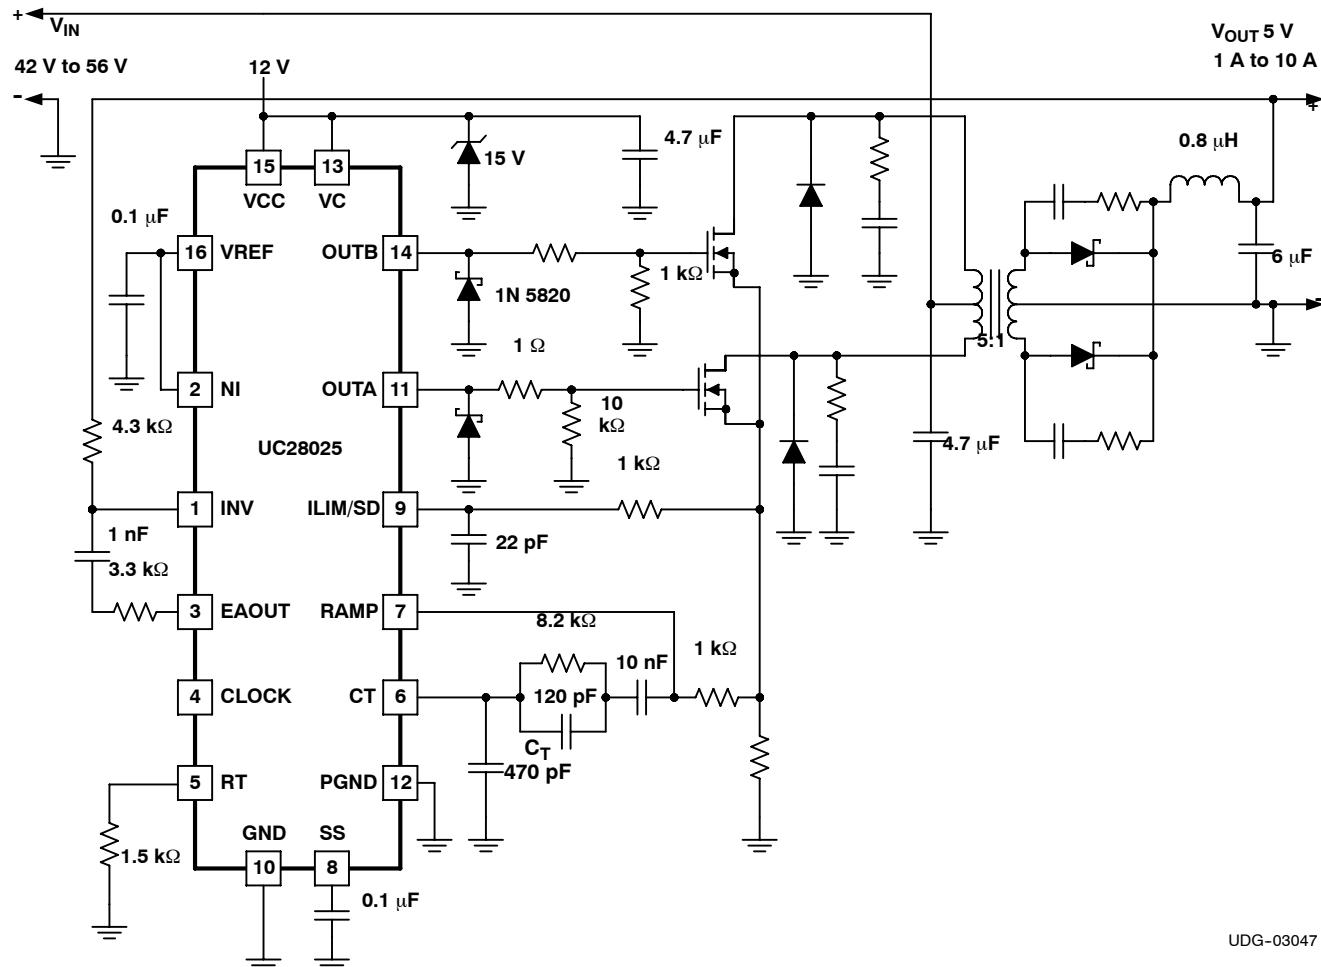

Figure 1. Typical Application: 1.5 MHz, 48-V to 5-V DC/DC Push-Pull Converter Using UC28025
1. Updated Typical Application Diagram, Figure 1, page 8.